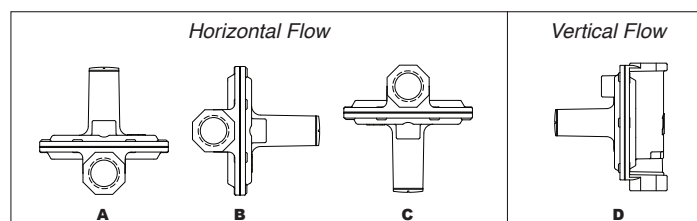

Figure 1: Mounting Position
- When installed outdoors, the use of a certified Maxitrol Vent Protector** is recommended, and installation should be in a horizontal upright position (horizontal flow position A, see Figure 1). Regional flood lines and snow depth should be considered when choosing an installation location. Refer to local codes and requirements.